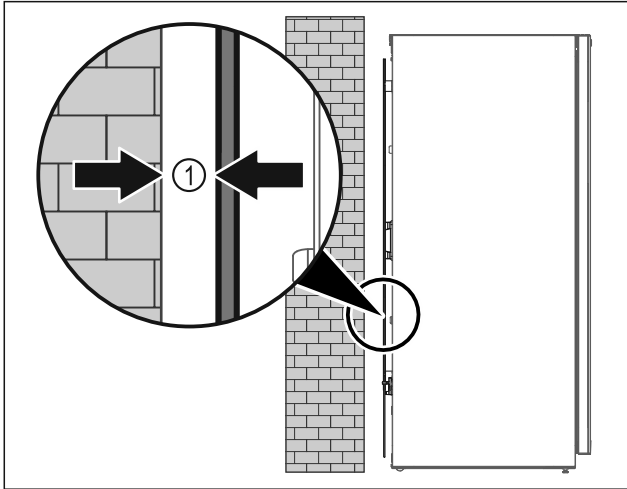

Fig. 4
- Set up the appliance either free-standing or directly against a wall at a minimum distance of 5 mm Fig. 4 (1).